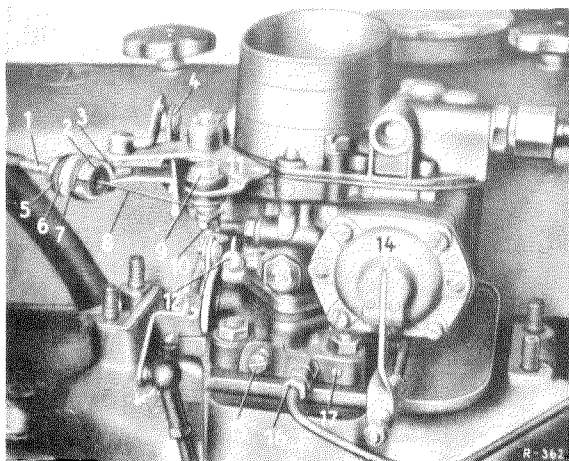

Fig. 30 — 6/2
6. Unscrew the nut of the hexagon bolt (3) of the clamp (2) for the coil spring and remove the hexagon bolt and the clamp (2) (see Fig. 30 — 6/2).
7. Unscrew the adjusting nut (6) and the two rubber bushings, (5) and (7), from the coil spring (1) (Fig. 30 — 6/2).